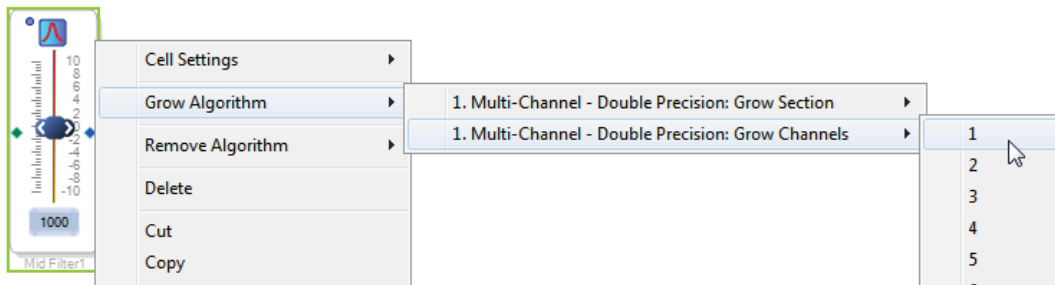

Figure 52. Adding a Channel to the Filter
2. By default, the block has one input and one output. In other words, it is a single channel. To add another channel, right-click in the empty white space of the **Medium-Size Eq** block, and then from the drop-down menu that appears, select **Grow Algorithm > 1. Multi-Channel - Double Precision: Grow Channels > 1** (see Figure 52).